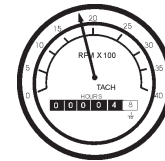

Figure 48. Engine Tachometer Gauge
11. The **tachometer gauge** (Figure 48) will indicate the speed of the engine when the generator is operating. Under normal operating conditions this speed is approximately 1500 RPM's.